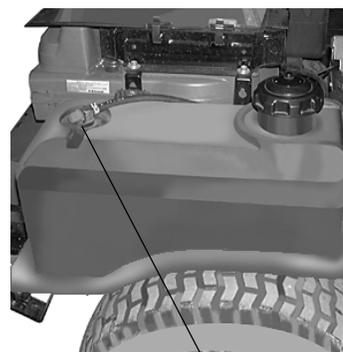

Figure. 4 Fuel Shutoff Valve
7. **Fuel Shutoff Valve:** (See Figure 4.) Located on top of the fuel tank(s). When turned in a clockwise direction until it stops, it will shut off the flow of fuel to the engine. When turned in a counterclockwise direction it will open and allow fuel to flow to the engine. Close this valve if you are not going to run the mower for a period of 30 minutes or more to prevent flooding the engine.